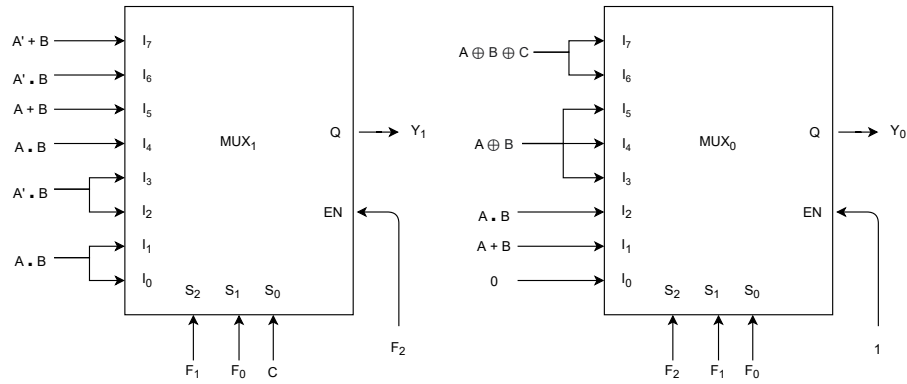

Figure 2: ALU Function Table
1. The final ALU output bits Y_0 and Y_1 will be generated by the two 8-input multiplexers – referred to as MUX_0 and MUX_1 respectively. The required data, select and output enable inputs of MUX_0 and MUX_1 are shown in Fig. 2.
4. Given a circuit with two 8:1 MUX, design the ALU according to the circuit diag. given in fig. 2.